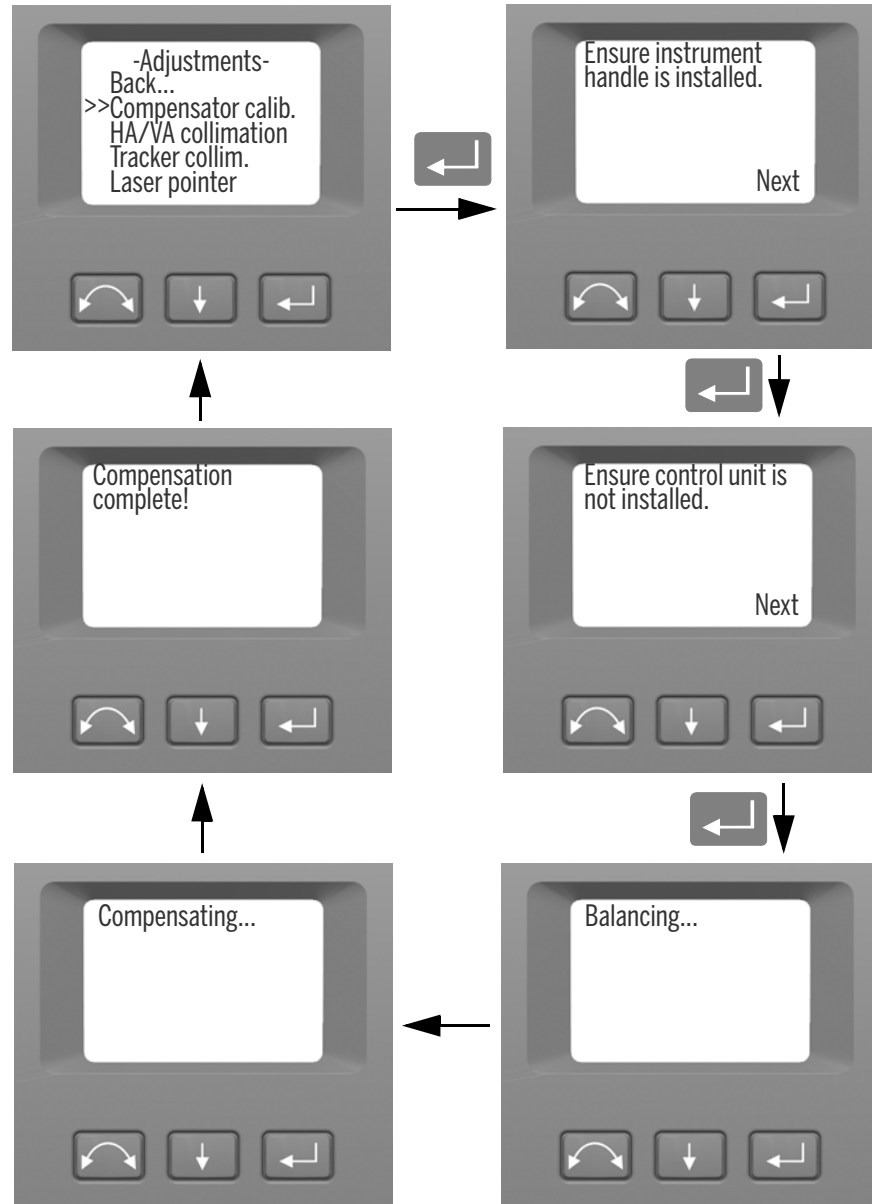

Figure 3.3 Compensator calibration routine
3. Follow the instructions in the display. Figure 3.3.